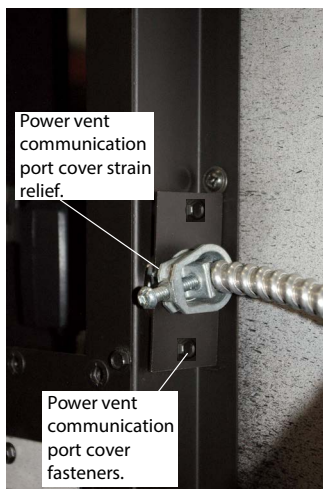

Figure 12e. Installing Conduit Port Cover Plate.
Step 4. Place the cover plate on the Conduit, then tighten the strain relief nut onto the threads protruding through backside of cover plate, **Figure 12e**.
Step 6. Re-Install the communication harness Port cover, **Figure 12e**. (*Philips head screwdriver required*).
Step 7. Tighten Power Vent Strain relief adjustmsent screw, Figure 12e.